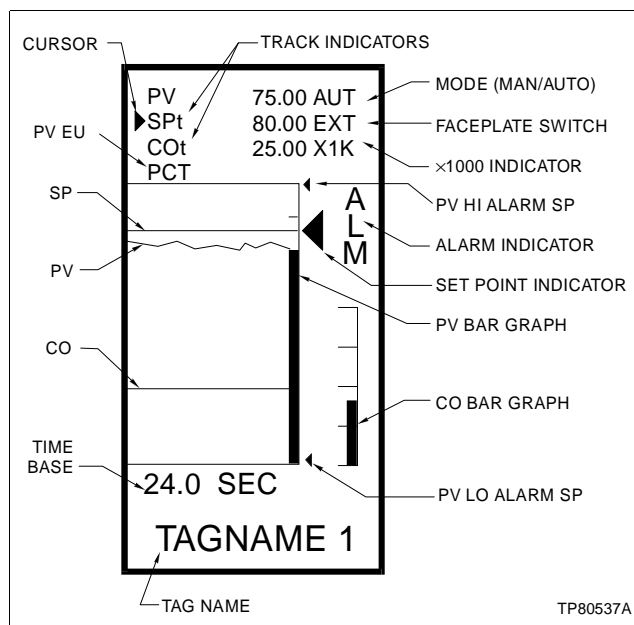

Figure 5-4. Trend Screen Description
6. If *TRND SCR*N is chosen, the trend screen will appear (Fig. 5-4). The following functions are available:
- b. Change the set point (SP) or control output (CO). Press **SEL**. Press **▲** or **▼** to change the value.